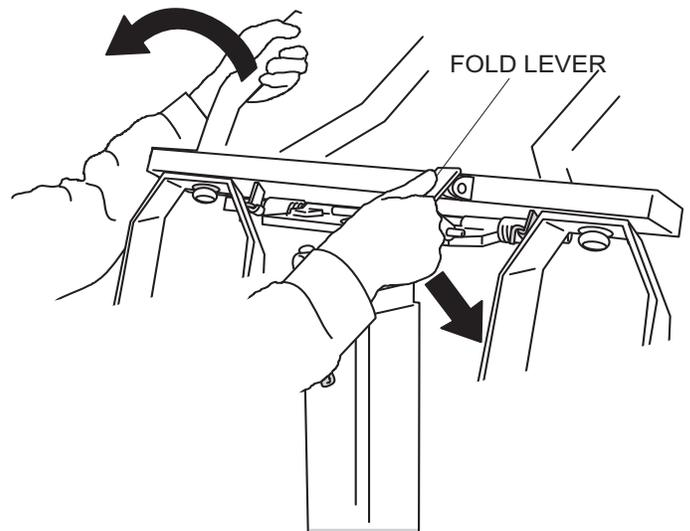

Figure 14. Locking Lamp Stand
2. Push up the lighting unit and push down the fold lever to lock the lamp stand (Figure 14).